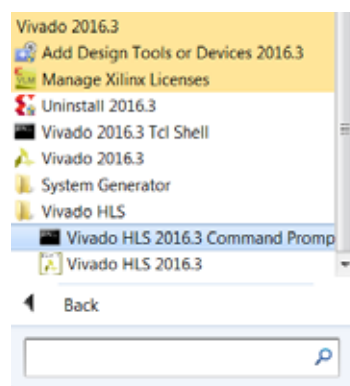

Figure 8-1: Vivado HLS Command Prompt
- On Windows use **Start > All Programs > Xilinx Design Tools > Vivado 2016.3 > Vivado HLS > Vivado HLS 2016.3 Command Prompt** (Figure 8-1).